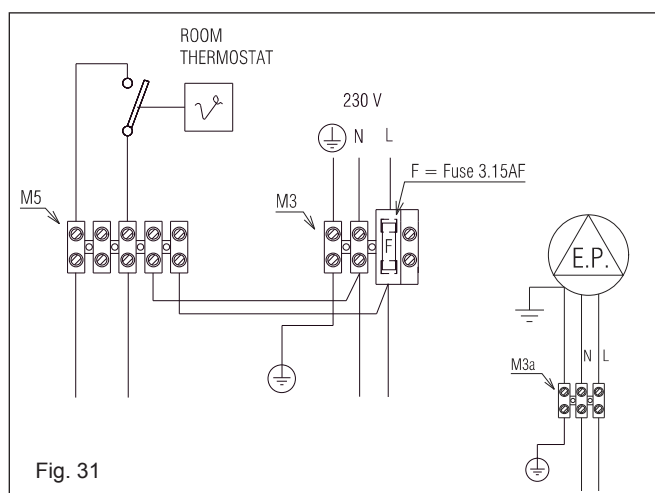

Fig. 31
- THE ELECTRICAL SUPPLY TO THE PUMP MUST BE CONNECTED TO THE TERMINALS AS SHOWN IN FIG. 31
- A PERMANENT 230V SUPPLY MUST BE CONNECTED TO THE BOILER AS SHOWN IN FIG. 31.